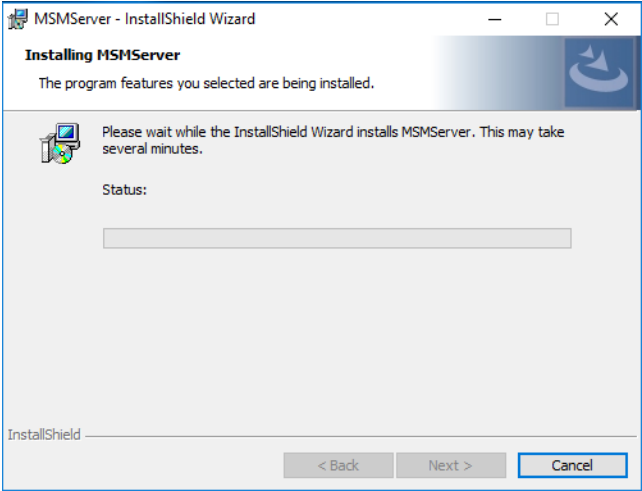

Figure 6
8. The installation wizard will begin the installation. (Figure 6)